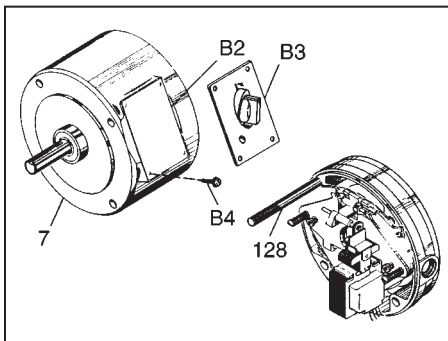

Figure 1
1. Remove housing (7) by unscrewing nuts from the four mounting studs (128) that protrude through the reducer flange.
3. Pull housing from the mounting studs (128). These studs are threaded into the C-face and should remain in place.
4. Remove the access cover (B2) by unscrewing the four mounting screws (B4). The kit manual release cover assembly (B3) is installed in its place. The indented arrow in the release cover (B3) shall face upwards as viewed in Figure 1. New mounting screws are provided in the kit.